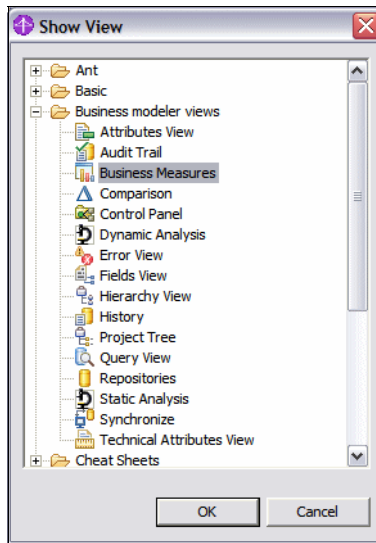

Figure 9-5 Show View for Business Measures
- ▶ If Business Measures are not visible, navigate to *Window* → *Show View* → *Others*, and in the Show view panel, expand *Business modeler views* → *Business Measures* (Figure 9-5).
- ▶ Click *OK* and the Business Measures view is shown (Figure 9-5).